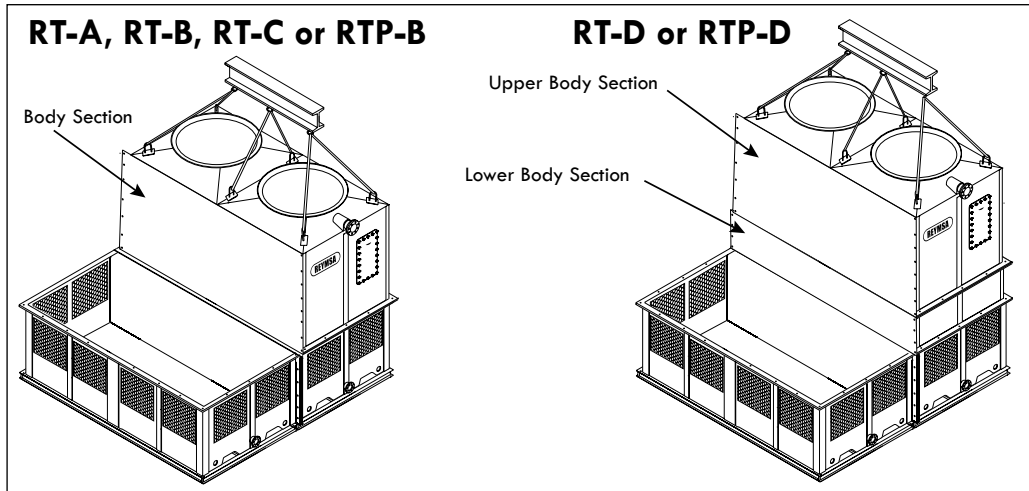

Figure A-30: Body section 1 (Upper Body section 1 for RT-D or RTP-D) on a Four Fan Tower
- M.** Assemble the body section #1 (Upper Body section 1 for RT-D or RTP-D) with the basin section #1 (Lower Body section 1 for RT-D or RTP-D), making sure that the bolt holes on body section #1 (upper body section for RT-D) are aligned with the perforations on basin section #1 (lower body section for RT-D), then bolt down and secure the horizontal flanges with the stainless steel nut and bolt supplied by REYMSA. See figure A-30 (wait the final tight until two upper section are on place and you can tighten the vertical flanges as well). Make sure that the hot water inlet and the cold water outlet are on the same side.